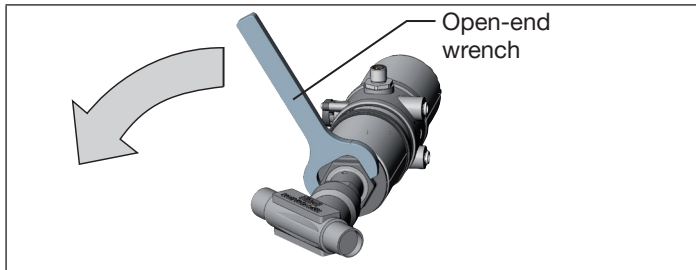

Fig. 8: Rotating with open-end wrench
- ▶ Only turn the actuator in the specified direction (see “Fig. 8”)!